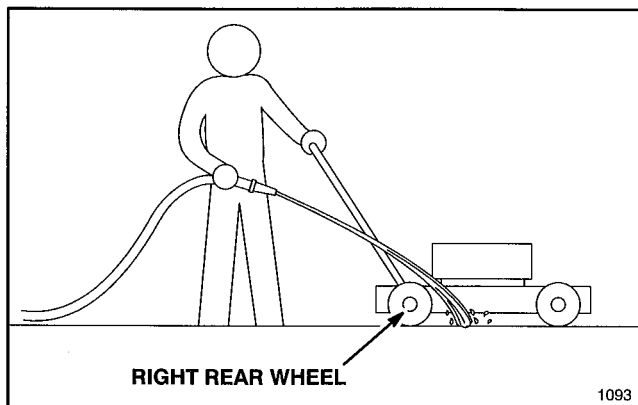

Figure 18
4. Hold the running garden hose at handle level and direct water to flow on ground just in front of right rear tire (Fig. 18). The rotating blade will draw water under the housing and wash out clippings. Let the water run for a few minutes or until you no longer see clippings being washed out from under housing.